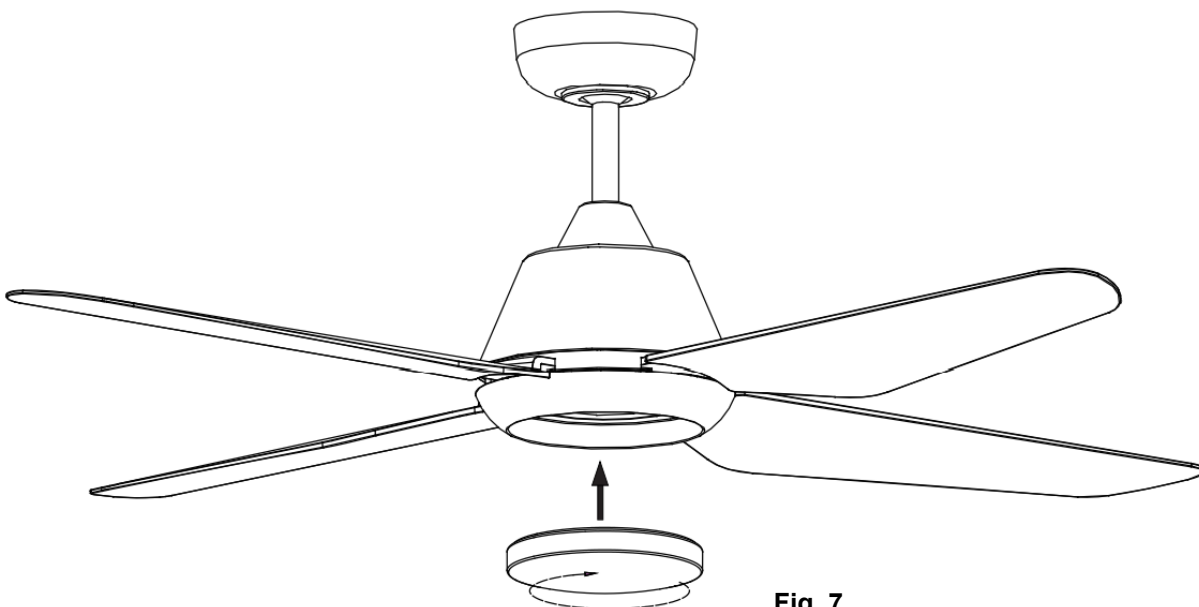

Fig. 7
INSTALLATION OF LAMP (Fig. 7)
- Install the lamp on the fan assembly, then secure it by turning clockwise. (Fig. 7)
ELECTRICAL WIRING DIAGRAM THE FAN**PREPARE AND COMPLETE THE ELECTRICAL WIRING --- WIRING DIAGRAM (FIG. 7)**